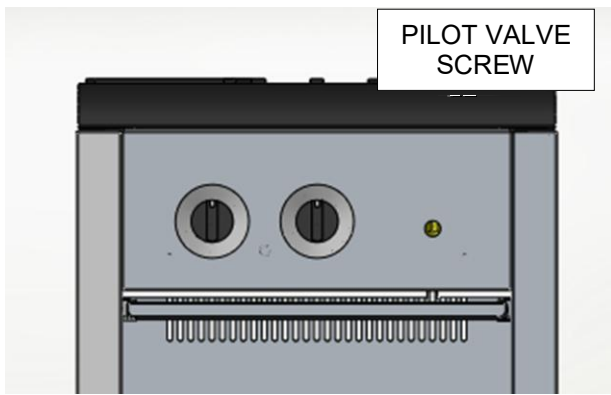
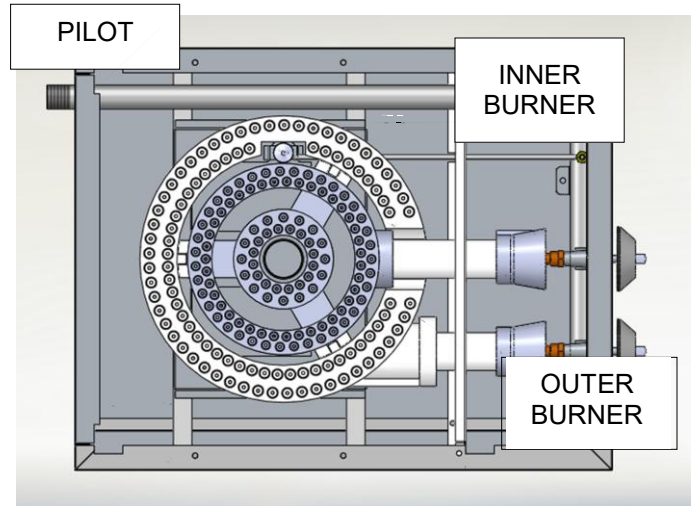

Fig.5
Fig.6
The burner is in two sections, controlled by two heavy duty infinite control valves. The center "Star" section (Fig.6) is on separate burner with an input of 40,000BTU/hr. It is controlled by the right burner valve knob. The outer circle of the burner (Fig. 6) is the other separate 40,000BTU/hr input burner, controlled by the left burner valve knob.
3. Light standing pilot with a lit taper (see Fig 6). Adjust pilot to $\frac{1}{4}$ " high flame, if necessary, by turning pilot valve adjusting screw (see Fig. 5) counterclockwise to increase or clockwise to decrease flame.